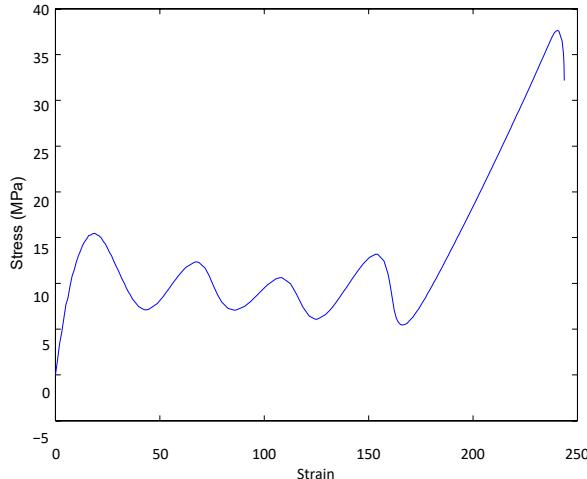

Figure 1: Stress vs strain curve
where σ is the stress, ϵ is the strain and V is the volume (you can use $V = 1m^3$). The stress vs strain curve is shown in Fig. 1.
2. Using your *trapezoidal* function, compute $I = \int_0^\pi \sin(x)dx$ using $n = 1, 2, 3, \dots, 1000$ segments. In figure 1, plot the true percent relative error as a function of n using logarithmic scales.
4. Using your *compositeSimp13* function, compute $I = \int_0^\pi \sin(x)dx$ using $n = 2, 4, \dots, 1000$ segments. In figure 1, plot the true percent relative error (for *compositeSimp13*) as a function of n using logarithmic scales (do not use a continuous line but a cross symbol).
7. Using your *SimpInt* function, compute $I = \int_0^\pi \sin(x)dx$ using $n = 1, 2, 3, \dots, 1000$ segments. In figure 1, plot the true percent relative error (for *SimpInt*) as a function of n using logarithmic scales.
8. Download the file *Loading.dat* in the same folder as your *m* file. Import the data corresponding to Fig. 1 using the function *importdata*. The 1st column of the data corresponds to the time, the 2nd column to the stress and the 3rd column to the strain. Plot the stress vs strain in Figure 2.
9. Compute the work using (1) your *trapezoidal* function (2) your *SimpInt* function.